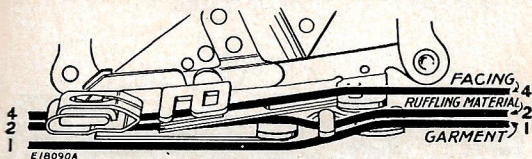

FIG. 68. CORRECT POSITIONS FOR THE MATERIALS
- (1) Insert the material to be ruffled between the two blue blades **Line 2, Fig. 68.**
- (2) Place the material to which the ruffle is to be attached under the separator blade **Line 1, Fig. 68.**
(3) Place the facing material over the upper blue blade **Line 4, Fig. 68.**